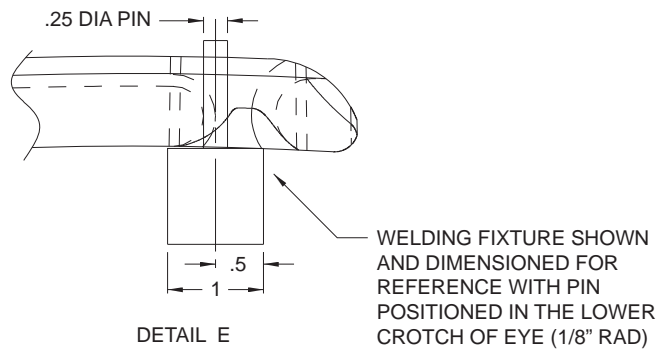

Figure 1
- The mating surface of the needle should be deburred, smooth and flat. Remove any weld material from the previous needle tip. The mating surface should be 2.875" long and 1.04" from the center of the nearest hole on the needle (see Figure 1).
- Follow all procedures in Figure 1.